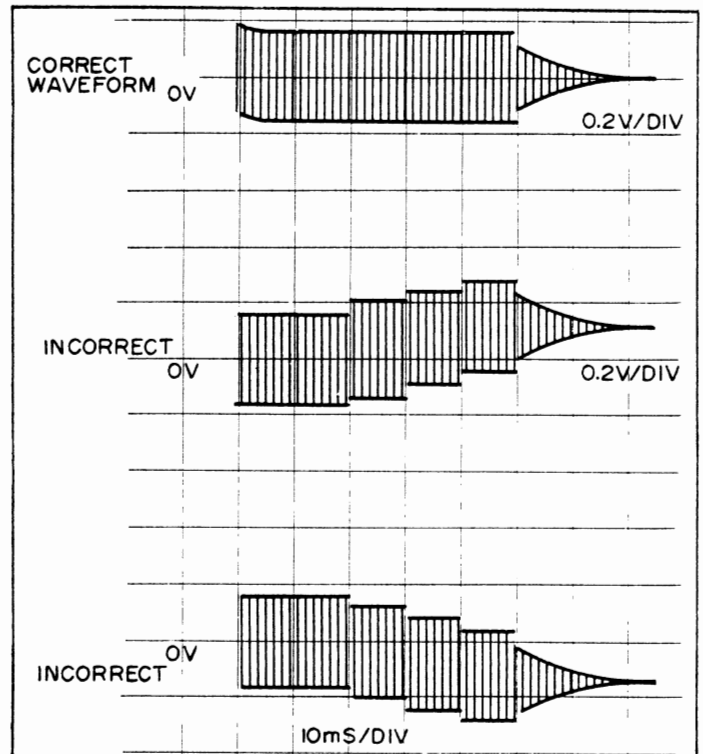

Figure 5-5. Current Detector A11R11 Adjustment
- f. Adjust A11R11 for correct waveform as shown in Figure 5-5.